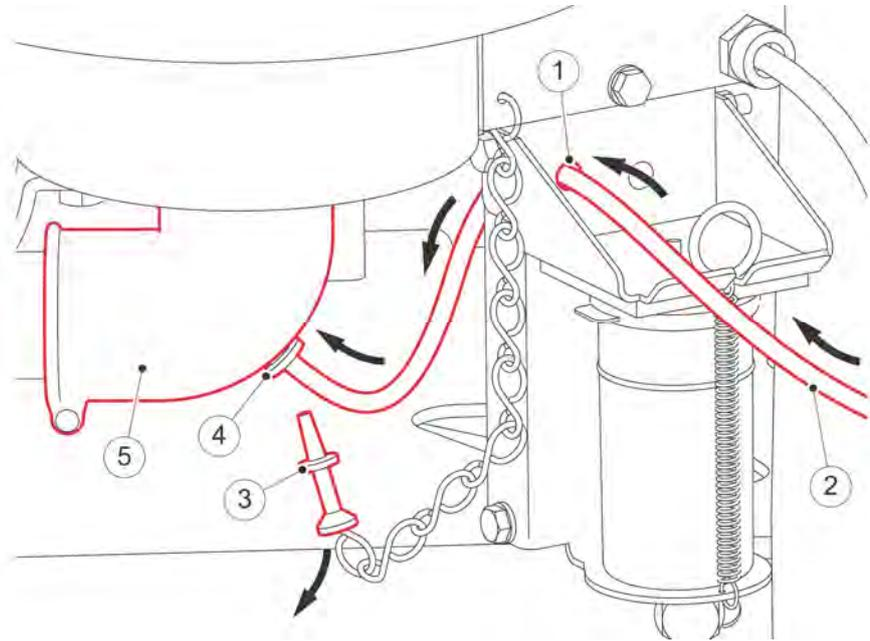

Figure 11. Connect the milk tube to an Astronaut A2 or A3 milking robot
1. If necessary, remove the tube from the hole in the elbow (5, fig. 11, page 5-8).
2. Put the milk tube (2) from the SHUTTLE through the hole.
3. Remove the stop (3).
4. Install the connector piece (4) in the milk tube.